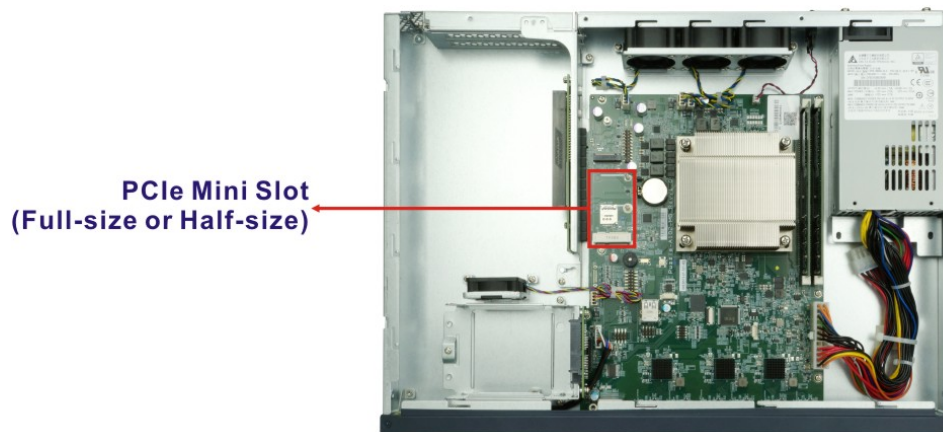

Figure 3-11: PCIe Mini Slot Location
Step 2: Locate the PCIe Mini slot on the motherboard (Figure 3-11).